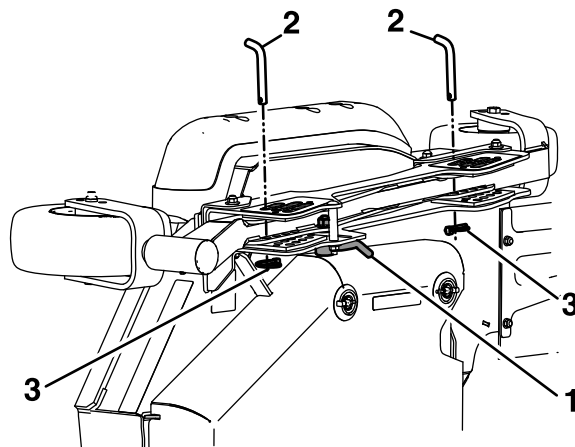

Figure 73
3. Unlock the left and right wing deck cam locks (Figure 73).
4. Remove and retain the wing deck height-of-cut lanyard (Figure 73).